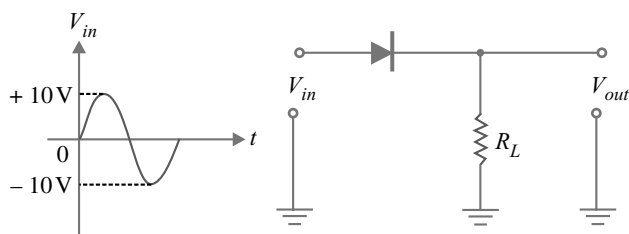

Fig. 16.75
2. In the negative series clipper shown in Fig. 16.75, what is the peak output voltage? [9.3 V]